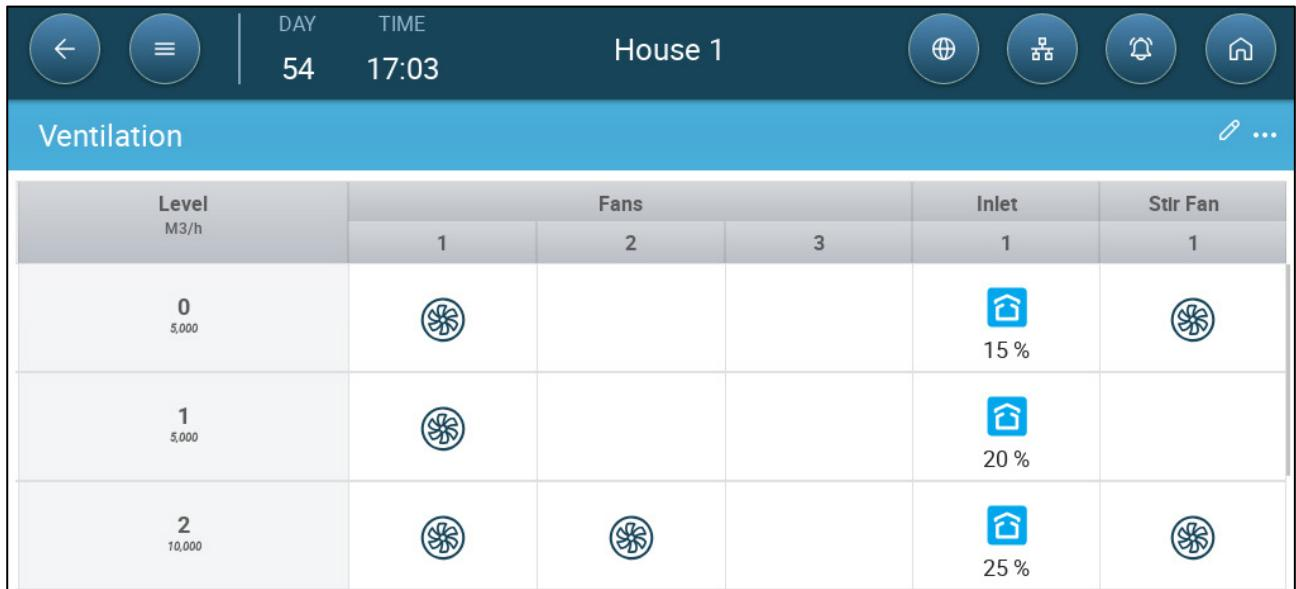

Figure 6: Change in Exhaust Fan – Stir Fan Continues Working
- Variable speed stir fans continue working at the same level until a new level is defined; there is no ramping. In Figure 6 the stir fan works at 25% from Level 0 to Level 2. At Level 3, it rises to 50%.